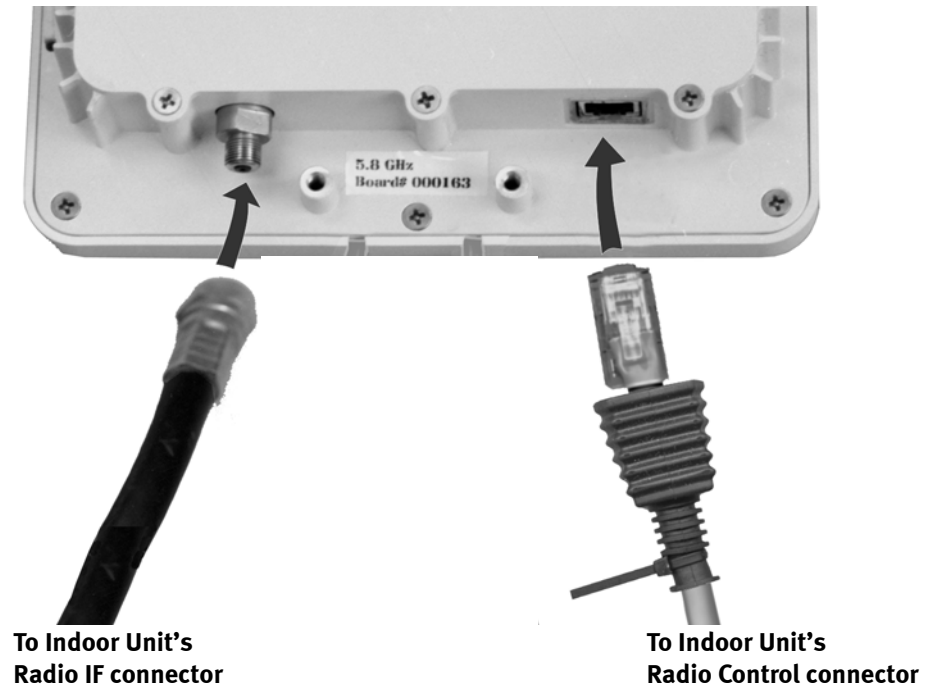

Figure 1-6 *Connections to the Outdoor Unit*
3. Attach the cable to the female F connector on the Outdoor Unit, as shown in *Figure 1-6*. Tighten the connector until the cable is firmly secured, but do not over-tighten.
4. Plug the cable into the RJ45 socket on the Outdoor Unit as shown in *Figure 1-6*.